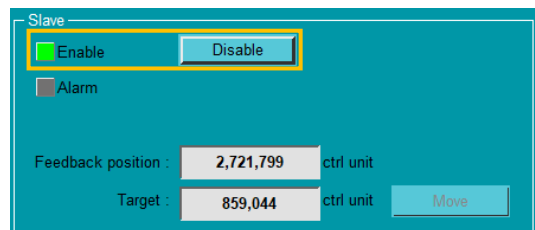

Figure 7.3 Enable Slave
- (2) Click **Enable** button of Slave. When the motor is enabled, the status light of **Enable** in Slave will light up in green, as figure 7.3 shows. Click **Disable** button of Slave.